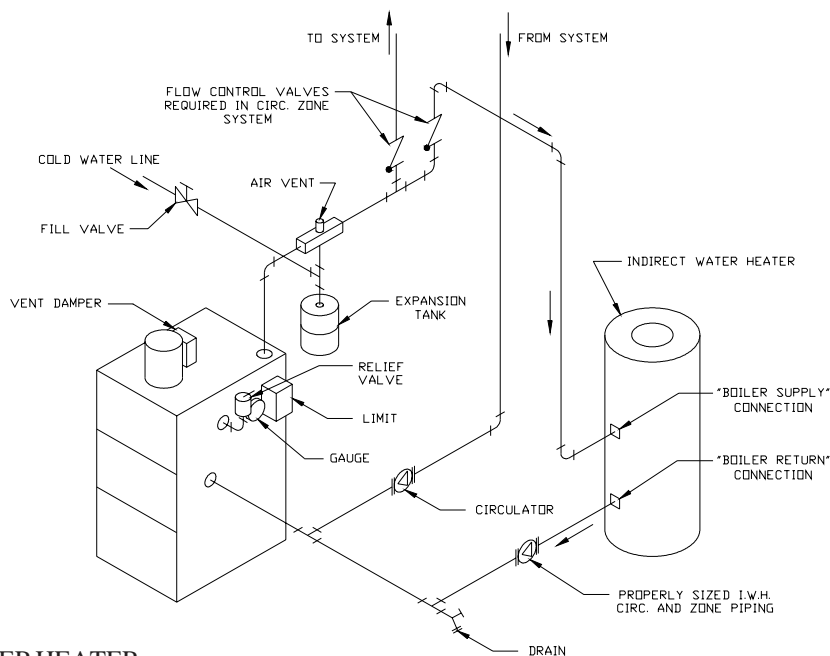

FIGURE 12: INDIRECT WATER HEATER
- 1) **Indirect Water Heaters** - Figure 12 shows typical indirect water heater piping. Boiler piping is the same as for any two-zone system. Figure 12 shows circulator zoning, which is usually preferred for indirect water heaters. Size the circulator and indirect water heater piping to obtain the boiler water flow through the indirect water heater called for by the indirect water heater manufacturer.